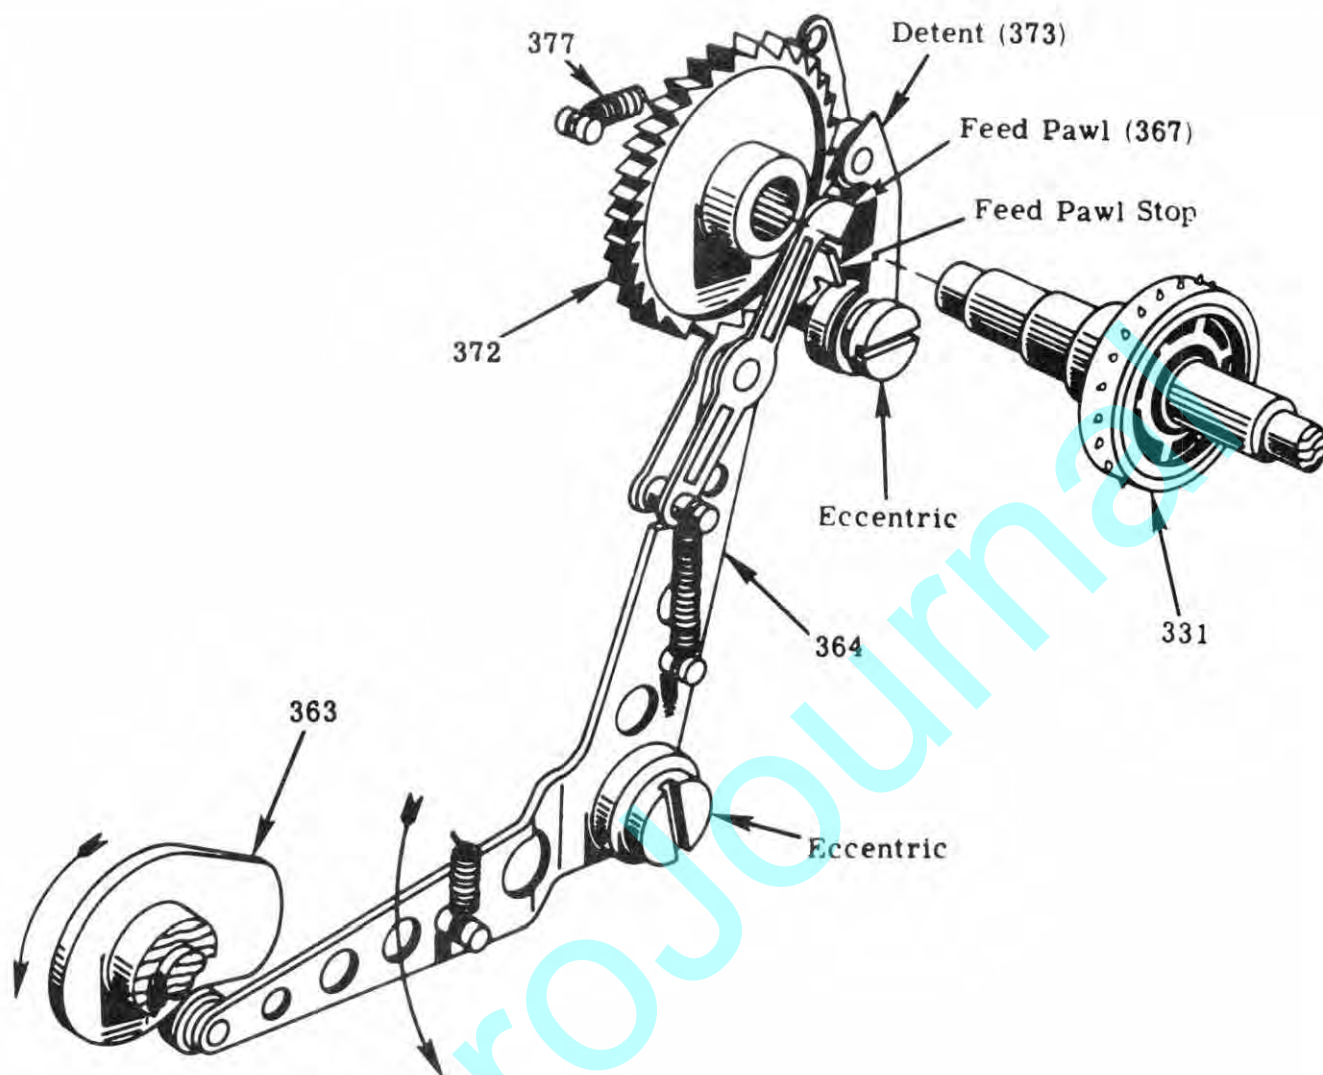

Figure 31- Tape Feed Mechanism
During the latch restoring and armature knockoff operation just explained, the feed pawl lever arm (364) starts rotating in a counter-clockwise direction, due to cam 363. (Figure 31). This moves the feed pawl (367), engaging a tooth and indexing the ratchet wheel in a clockwise direction. The rotation of the ratchet wheel (372) will rotate the tape feed sprocket (331) and, in turn, advance the tape 1/10 of an inch.